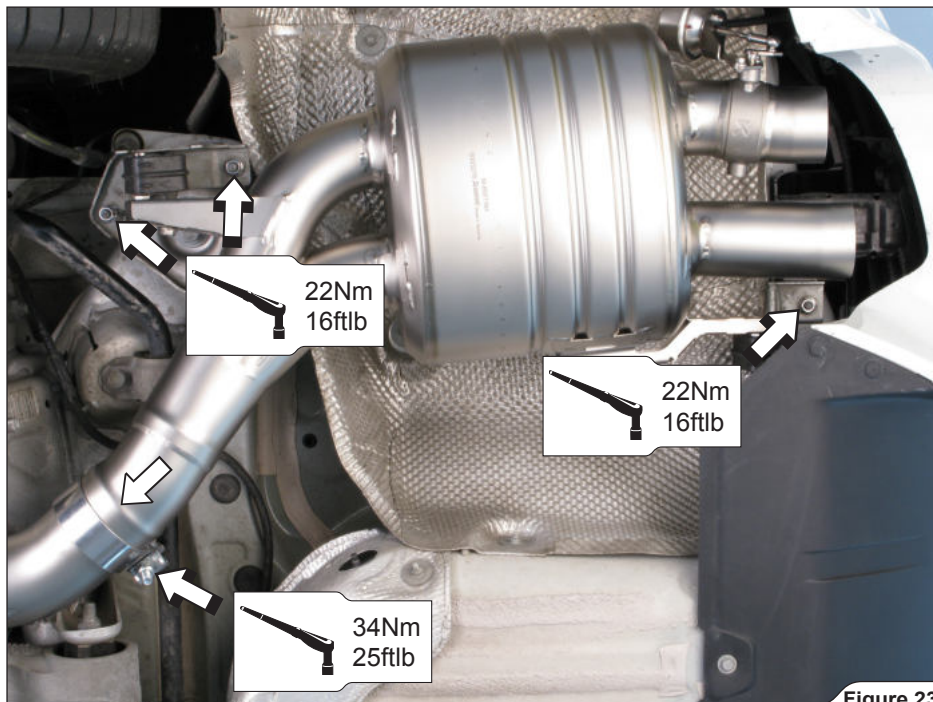

Figure 23
- Slide both mufflers all the way onto the collector's outlets, tighten all stock rubber brackets (using stock nuts) onto the chassis, center the mufflers in respect to the rear bumper's tail pipe outlets and tighten the clamps (**Figure 23, 24**).